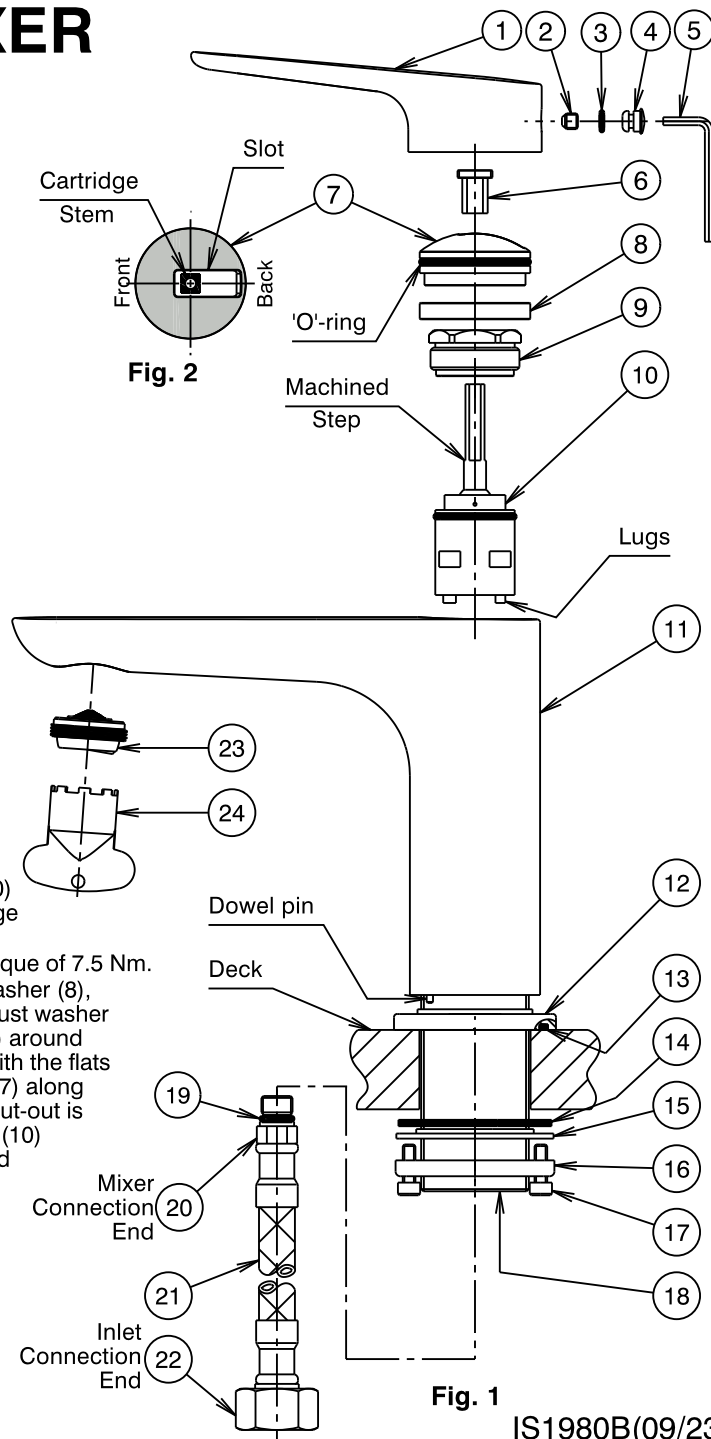

Fig. 1
- 1) From fixing pack fit 'O'ring (13) into groove in base ring (12). Slide the base ring (12) over the threaded tube (18), align dowel pin at underside of body (11) with the hole at base ring (12) & locate spigot of base ring (12) into base of mixer body (11), as shown in Fig. 1.
- 2) **Flexible Tail Mixer Connections:** Apply suitable lubricant to 'O'rings (19). Fit flexible tail (21) (with red indication) into inlet hole marked with a Red Dot in underside of mixer body (11). Hand tighten the tail, ensuring the 'O'ring (19) has fully entered the sealing bore to provide a watertight joint. Fit other flexible tail (with blue indication) into remaining hole in a similar manner.
- 3) Insert the inlet connection end (22) of each flexible tail (21) through the hole in the deck. Place mixer into deck hole, fit washer (14) followed by fixing plate (15) over threaded tube (18) then screw the fixing nut (16) followed by tightening the fixing screws (17) until the mixer body is secure.
- 4) **Flexible Tail Inlet Connections:** Connect the flexible tails (21) to the hot and cold isolating stop taps, hand tighten the fixing nut (22) until rubber cone contacts the sealing face of the connection end, then tighten a further one turn to provide a watertight joint.